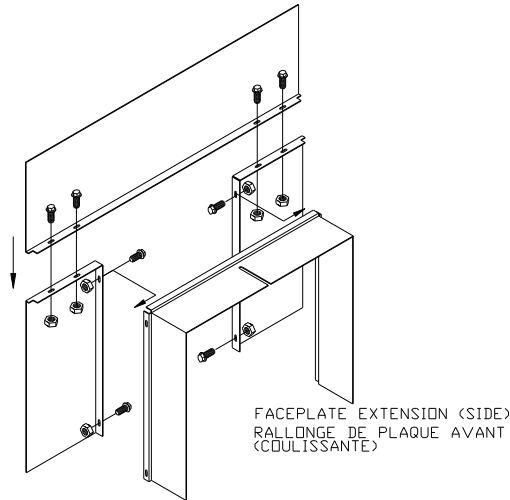

Figure 6
- B. Place the faceplate face down on a flat, nonabrasive surface (see Figure 6) so that the sides are a bit towards the middle.